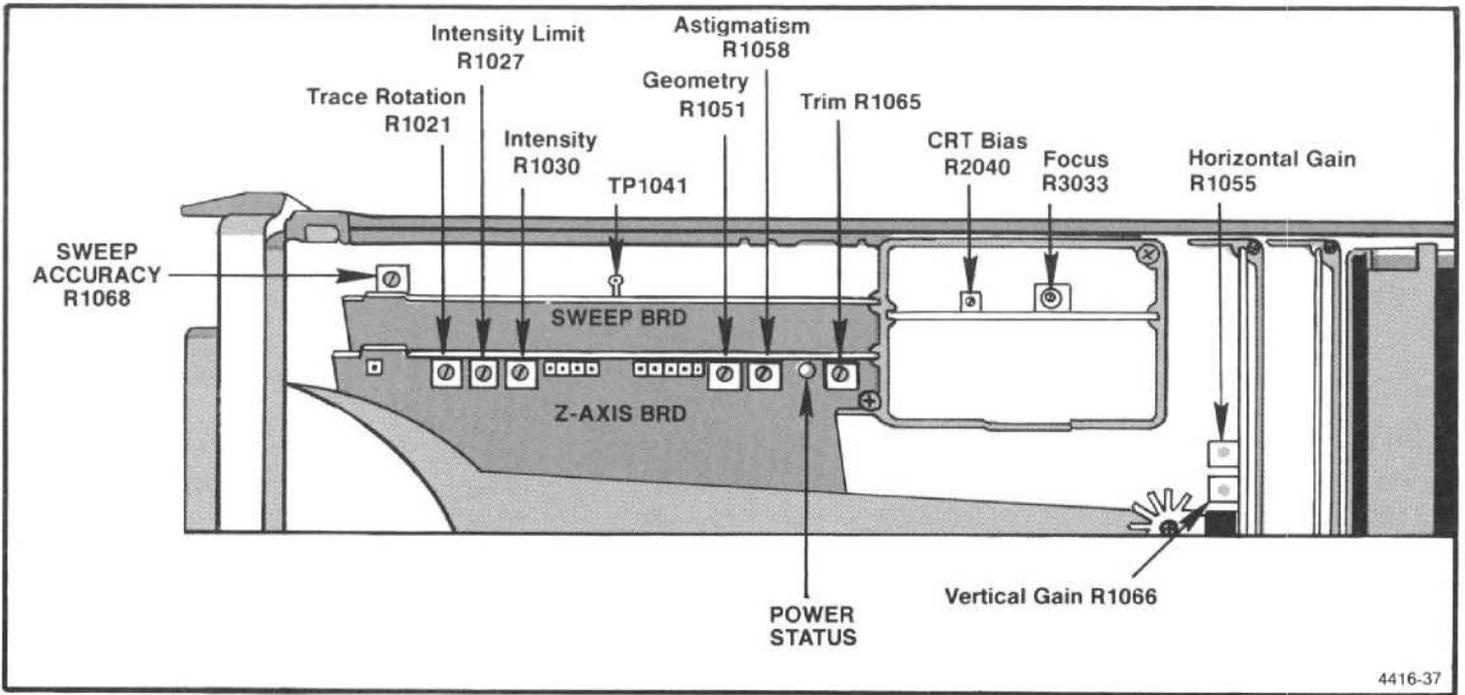
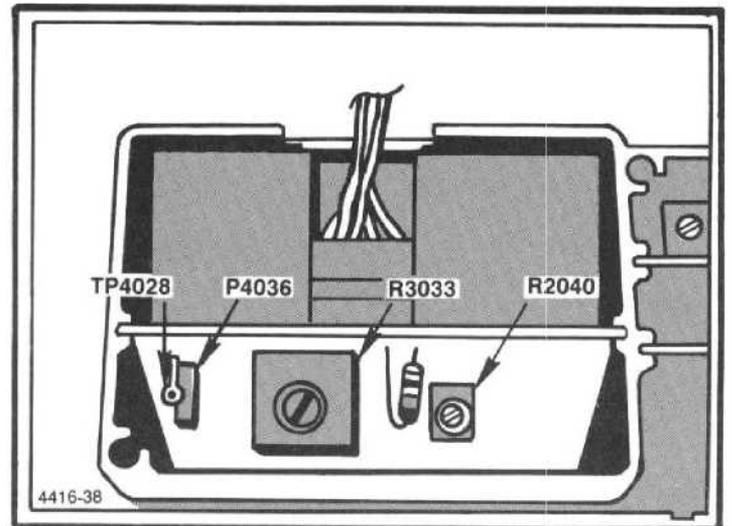

Figure 5-2. Location of adjustments and test points on the Deflection Amplifier board, High Voltage module, Z-Axis board, and Sweep board.
Figure 5-3. Location of test points and adjustments on the High Voltage module.
a. Switch POWER off and preset the INTENSITY control fully counterclockwise, MANUAL SCAN to midrange, and TIME/DIV to MNL position. Remove the cover over the Z-Axis and Sweep board. Set the Intensity Limit R1027, on the Z-Axis board (Figure 5-2) fully counterclockwise and Crt Bias R2040, on the High Voltage board (Figure 5-3) fully clockwise.
(2) Turn the INTENSITY clockwise until a crt beam dot appears on screen.
(3) Focus by adjusting R3033 on the High Voltage board (Figure 5-3) for the smallest round dot.
(4) Set the INTENSITY for a collector voltage 5.5 V higher than the voltage noted in part 1.
(5) Use the non-metallic screwdriver to adjust Crt Bias, R2040, counterclockwise until the crt beam is visible, then clockwise until the beam dot just extinguishes, with the screen shaded. (If no dot appears, with the adjustment fully counterclockwise, this will be the bias setting.)
(6) Turn the INTENSITY clockwise until a dot is visible then defocus the dot with the Focus adjustment R3033. Adjust Astigmatism R1058 (Figure 5-2) for a round dot then refocus with R3033 for the smallest sharpest dot.
(7) Turn the INTENSITY counterclockwise until the dot just disappears and again measure the collector voltage of Q4058 or Q4059. Voltage should equal or exceed the voltage noted in part 4. If the voltage is less, repeat the procedure for setting crt bias.
(1) Switch POWER off then remove P4036 (Figure 5-3) on the High Voltage board. Turn INTENSITY fully clockwise, MANUAL SCAN fully counterclockwise, and ensure that the TIME/DIV is in the MNL position. Set the Intensity Limit R1027, on the Z-Axis board, (Figure 5-2) fully clockwise.
(2) Connect the voltmeter between TP4028 (Figure 5-3) and the ground lug on the crt shield.
(3) Switch POWER on. After the instrument initializes, activate 2 dB/DIV and switch Digital Storage off.
(4) Adjust Intensity Limit R1027 (Figure 5-2) for a voltage reading of 0.9 volts at TP4028.
(5) Switch POWER off and re-install the jumper P4036 on the High Voltage board. Turn POWER on and adjust the INTENSITY for normal viewing.
f. Activate ZERO SPAN and adjust REFERENCE LEVEL until the trace is approximately mid-screen; then adjust Trace Rotation R1021 (Figure 5-2) so the trace is aligned with the graticule lines.
g. Activate VIEW A and VIEW B then use the PEAK/AVERAGE cursor, positioned at the top then bottom of the screen, as a reference line to adjust Geometry R1051 (Figure 5-2) for the straightest trace at top and bottom of the screen.
i. Adjust Δ Intensity R1030 (Figure 5-2) so the brightness of the readout characters is slightly higher than the trace. Readout characters should be just visible after the trace has disappeared. This ratio provides the best setting for photograph purposes. Disconnect CAL OUT signal from the RF INPUT.
c. Adjust Vert Gain R1066 (Figure 5-2) for a full screen display.
e. Set TIME/DIV to MNL, connect a digital voltmeter (DVM) to TP1041, on the Sweep board (Figure 5-2) and adjust MANUAL SCAN for 0.0 V at TP1041. Adjust Horizontal Position control to center the Crt beam.
f. Adjust MANUAL SCAN for a reading of +5 V at TP1041. Now adjust Horiz Gain R1055 (Figure 5-2) to position the crt beam to the right graticule edge (10th graticule line).